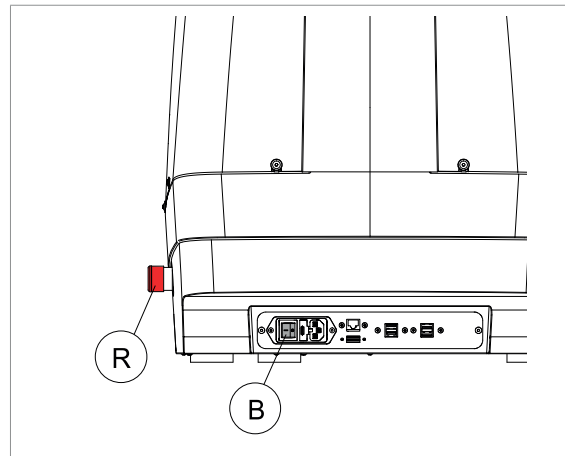

Fig. 6
ATTENTION: turn off the master switch (B) on the back of the machine (Fig. 6) and unplug before carrying out maintenance operations.